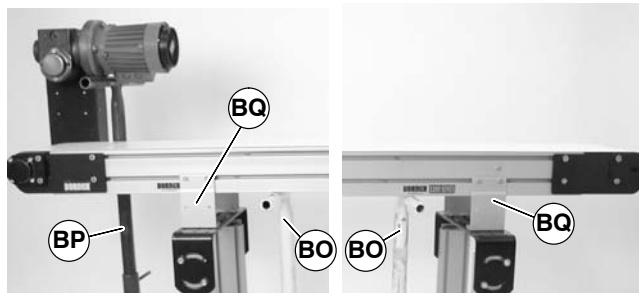

Figure 37
1. Place temporary support stands (BO of Figure 37) at both ends of the conveyor. See WARNING.
4. Remove first mounting brackets (BQ of Figure 37) from one side of conveyor. (Reverse steps 3 & 4 of “Mounting Brackets” section on page 7).
1. Ensure temporary support stands (BO of Figure 37) are placed at both ends of the conveyor. See WARNING.